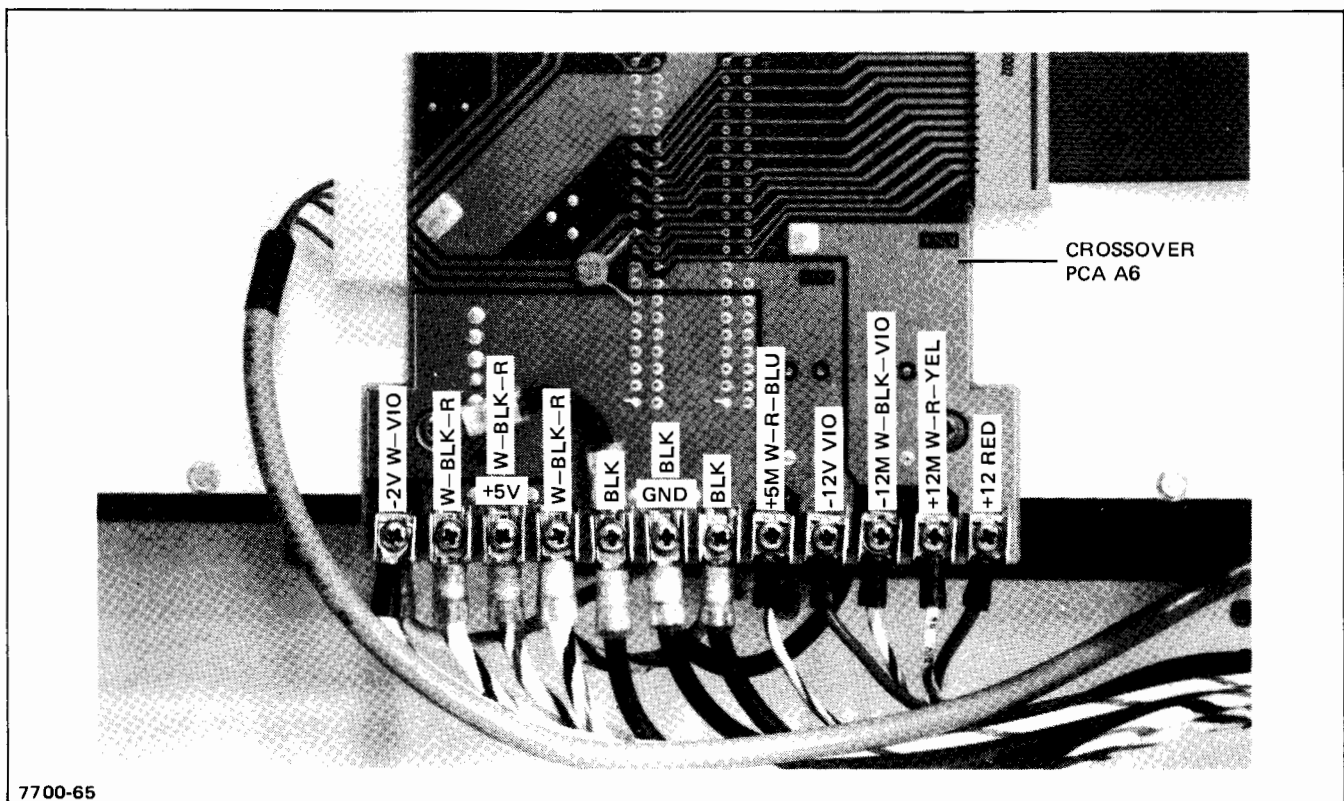

Figure 1-8. Crossover PCA Voltage Test Points
- d. If the fault status LED is OFF, proceed and check the tolerances of all output voltages at the crossover test points. Test points are shown in figure 1-8 and tolerances are listed in table 1-5.